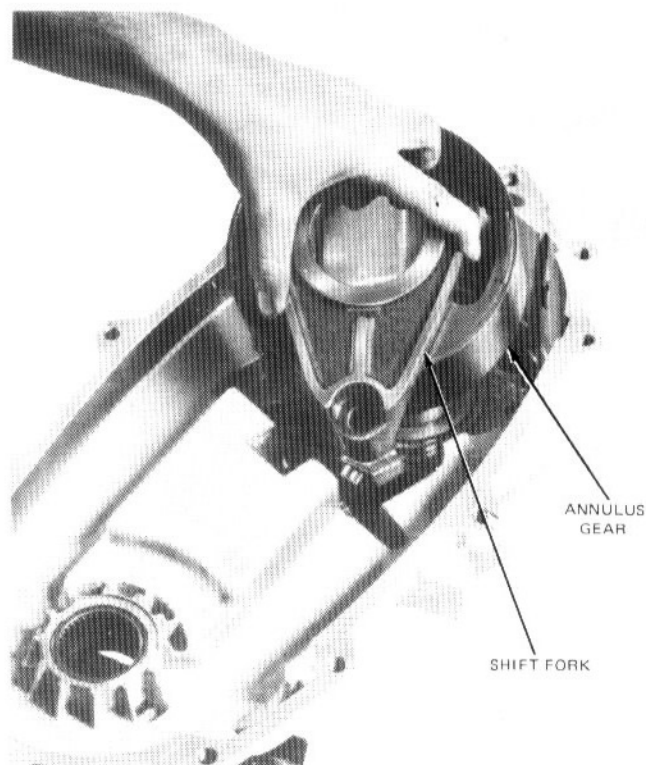

FIG. 15 Removing Annulus Gear and Shift Fork
15. Remove the annulus gear assembly and shift fork from the case (Fig. 15).